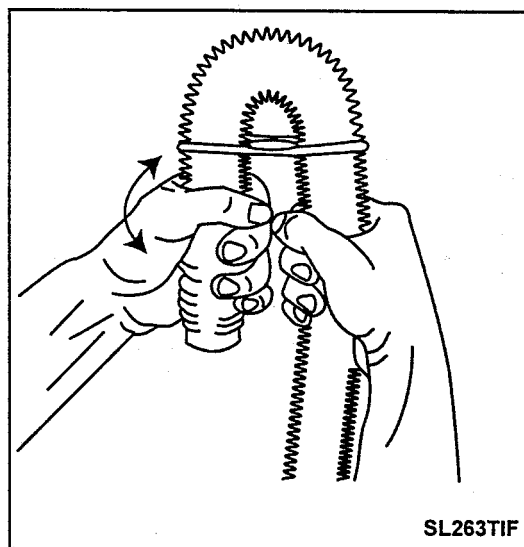

Figure 1-6
8. Install gooseneck end of drain hose into drain standpipe. Be sure the connection is not airtight between the drain hose and the standpipe. Standpipe must be at least 36" high. If the hose is twisted after it has been placed into the standpipe, adjust the end of the hose to remove the twist. To remove the twist, turn the short end of the hose while holding the base of the hose stationary (**Figure 1-6**).